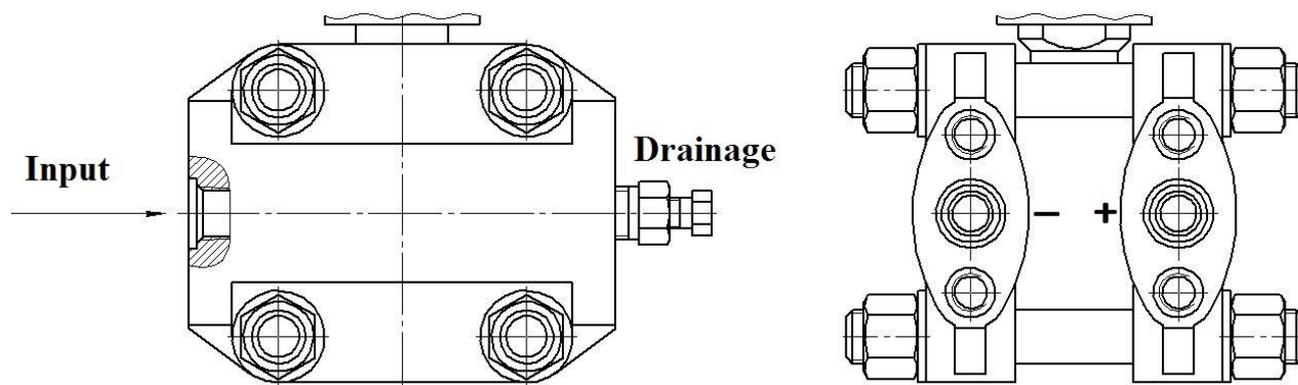

Figure 5 – Point marking of measurable parameter supply
1.4.4 Marks “+” and “-“ on sensor block housing mean point marking of measurable parameter supply. (fig. 5). Mark “+” corresponds to supply point of measurable pressure or greater one of measurable pressures in Agat-100MT-DD transmitters, and the mark “-“ indicates the chamber communicated with static